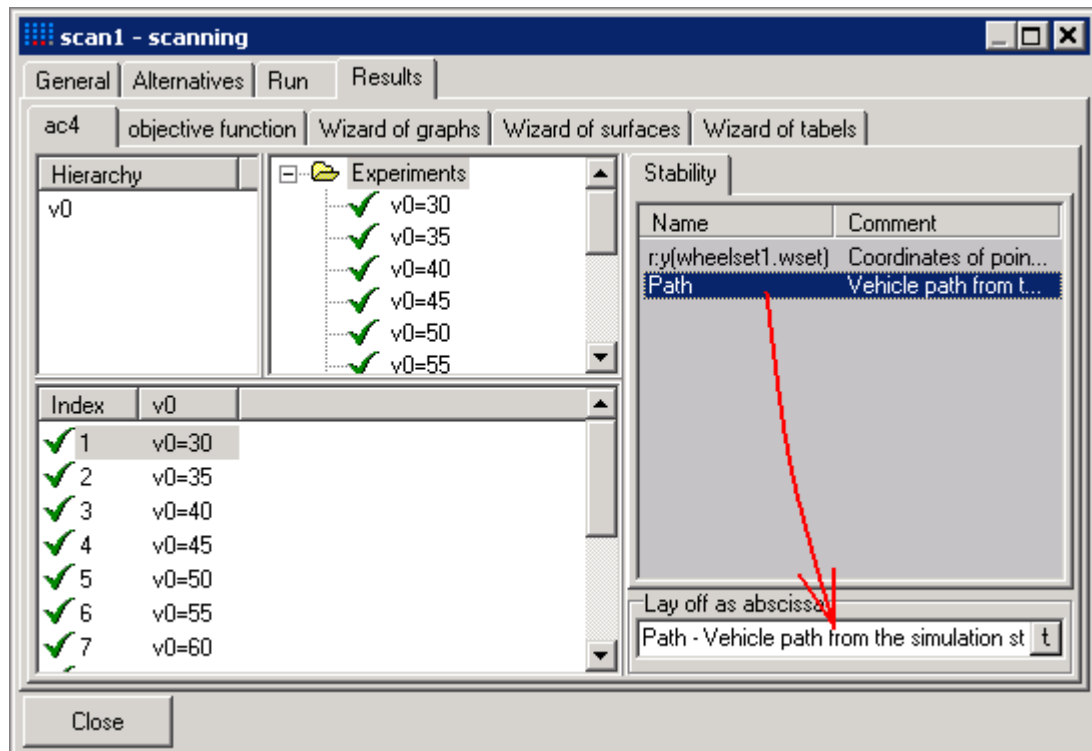

Figure 3.17. Lay **Path** off as abscissa
2. Select the **Path** variable in the list of variables and drag it to the **Lay off as abscissa** box, see Fig. 3.17.